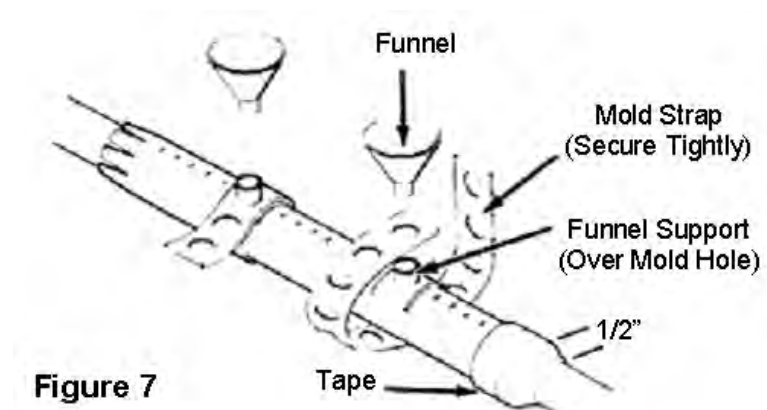

Figure 7
5. Position funnel supports over mold holes and secure tightly with mold straps. (Figure 7)
6. Bundle mold's notched ends evenly around cable, maintaining cable centering. Starting 1/2" (12 mm) on cable jacket, apply one half-lapped layer of tape over the mold's notched ends. (Figure 7)
7. Install funnels into funnel support holes. (Figure 7)